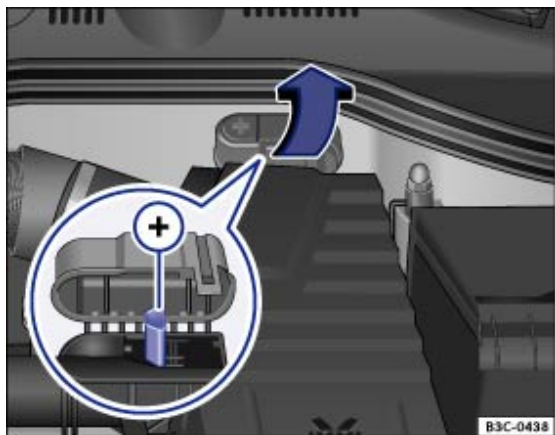

Fig. 252 In the engine compartment: jump lead connection point, positive ⊕
- If applicable, open the battery cover → Vehicle battery or the cap on the positive jump lead connection point¹⁾ in the engine compartment in the direction of the arrow → Fig. 252 .
- Connect one end of the *red* jump lead to the positive terminal → Fig. 253 ⊕ or → Fig. 252 ⊕ of the vehicle with the discharged battery ① →  .
- Connect the other end of the *red* jump lead to the positive terminal ⊕ in the vehicle providing assistance ②.